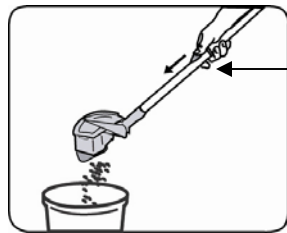

Fig. 11
2. Lift out the dust cup container, which is connected to the handle. Hold over a trash bin and push down on the no touch empty button located on the handle. (Fig. 11)